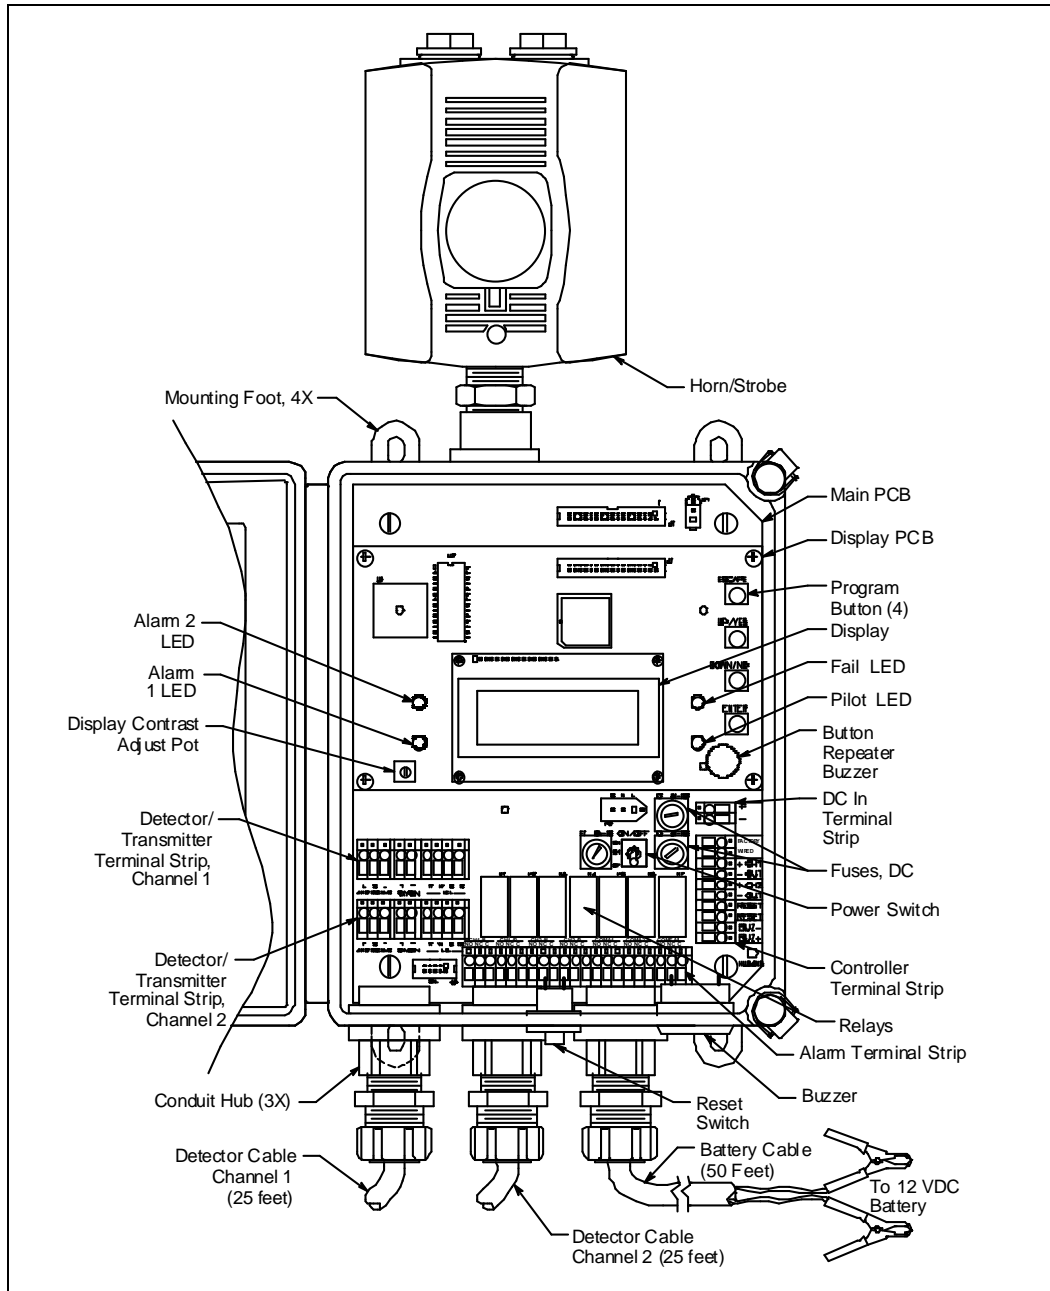

Figure 1. Beacon 200 Rig Monitor Component Location
- **Detector/Transmitter Terminal Strips.** Two detector/transmitter terminal strips are located near the bottom left corner of the main circuit board (see Figure 1). These two 9-point terminal strips facilitate wiring connections to the detectors. Only one detector head at a time may be wired per channel. The top terminal strip is for channel 1 and the bottom terminal strip is for channel 2. The LEL detectors are factory wired to these terminal strips.
- **Alarm Terminal Strip.** The alarm terminal strip is located along the bottom edge of the main circuit board (see Figure 1). This 21-point terminal strips facilitates wiring connections to external alarm devices (horn, strobe, etc.). Terminals are provided for individual channels as well as common alarm relay contacts. The horn/strobe is factory wired to this terminal strip.
- **Controller Terminal Strip.** The 10-point controller terminal strip is near the lower right edge of the main circuit board (see Figure 1). The controller terminal strip facilitates various internal and external wiring connections. Table 3 lists the function of each terminal.
- **DC In Terminal Strip.** The DC in terminal strip is a 2-point terminal strip located above the controller terminal strip (see Figure 1). It facilitates wiring from the 12 VDC battery. The 50 foot battery cable is factory wired to this terminal strip. Table 4 lists the function of each terminal.
- **Channel relays.** The four channel relays are above the alarm terminal strip (see Figure 1). These relays are dedicated to specific channels and alarm levels.
- **Common relays.** The three common relays, alarm 1, alarm 2, and fail, are to the left of the controller terminal strip (see Figure 1). These relays are common for both channels.
The power switch is located above the relays and to the left of the DC fuses (see Figure 1). The power switch turns the incoming DC power source on and off at the Rig Monitor. When the switch is up, the power switch is on.